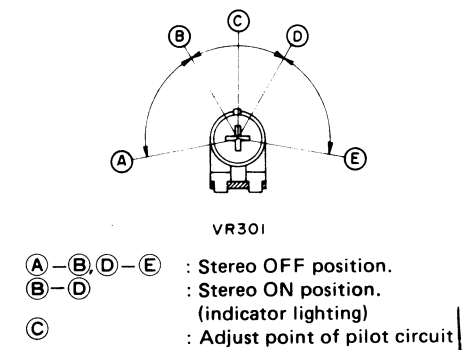

Fig. 9 (Adjustment of FM MPX VCO)
2. Adjust VR301 until stereo indicator lights up. Cement arm of VR301 as shown in Fig. 9.